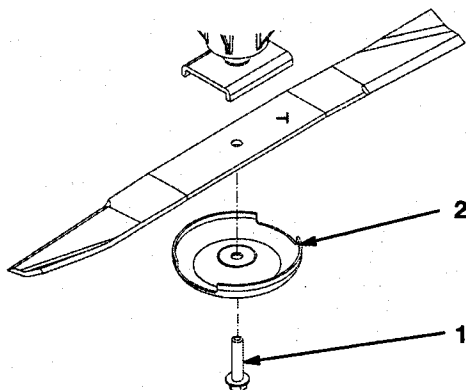

Figure 13
2. Grasp end of blade using a rag or thickly padded glove. Remove blade bolt, anti-scalp cup, and blade from spindle shaft (Fig. 13).
3. Install blade, sail facing toward cutting deck, with anti-scalp cup and blade bolt (Fig. 13). Tighten blade bolt to 85–110 ft.-lb. (115–149 N·m).